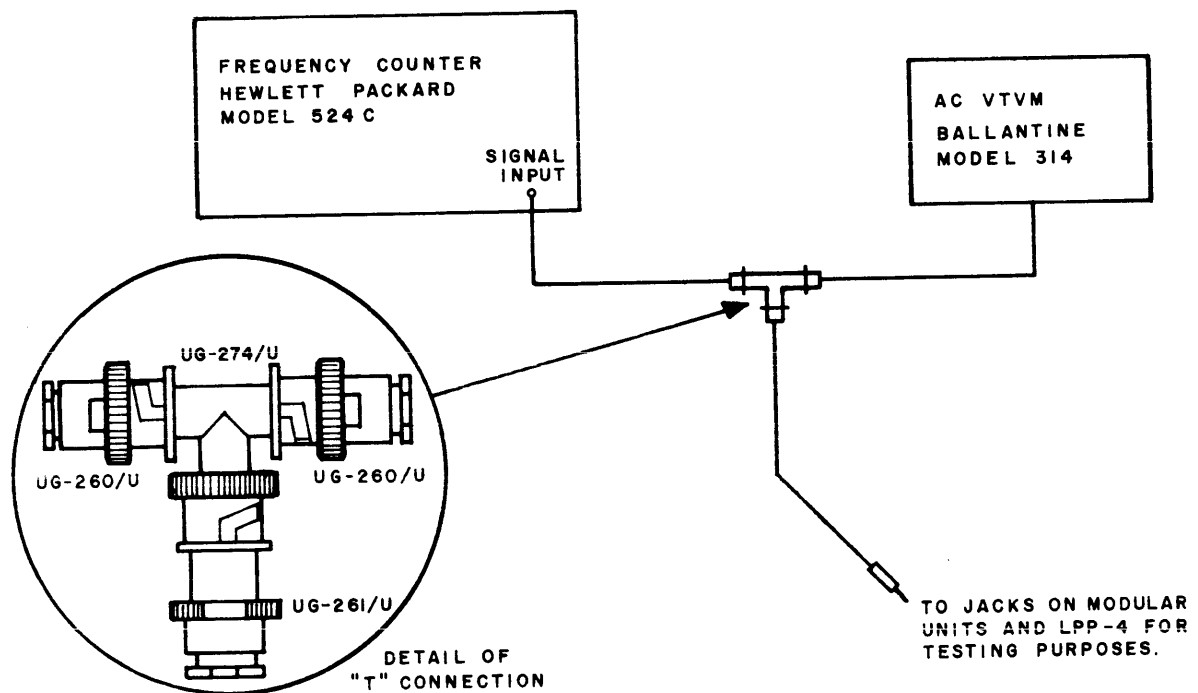

Figure 2-5. Test setup for Frequency Counter and AC VTVM
- (c) Connect frequency counter and AC VTVM to jack J108 of GPR-92 as shown in figure 2-5.
- (d) Set IF SELECTIVITY switch (7) and RF GAIN control (4) of GPR-92 at 15 KC and at full clockwise position respectively; using RANGE SELECTOR switch (19) and TUNING control (5), tune GPR-92 to 1.0 mc.
- (f) Adjust ANT/TUNE control (14) for maximum indication on AC VTVM; indication on AC VTVM should be at least .05 vac.
- (h) Adjust LINE LEVEL control (21) of GPR-92 and INCR (1) of Bridging Speaker Panel BSP-2 as required to obtain audible 1 kc tone on loudspeaker LS-1.